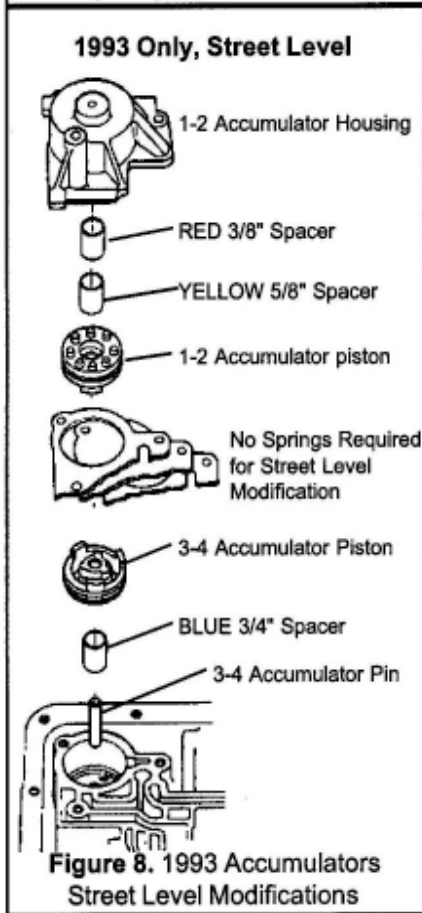

Figure 8. 1993 Accumulators Street Level Modifications
STEP 13. Street Level Only; (See Figures 8 or 10) Place the 3-4 Accumulator Pin in the case. Over the pin place the spacer and 3-4 Accumulator Piston, using petroleum jelly to hold them in place. Remove the spring and piston from the 1-2 Accumulator Housing. Install both spacers over the pin, then the piston (notice orientation). No 1-2 or 3-4 accumulator springs are used for Street level shift performance.